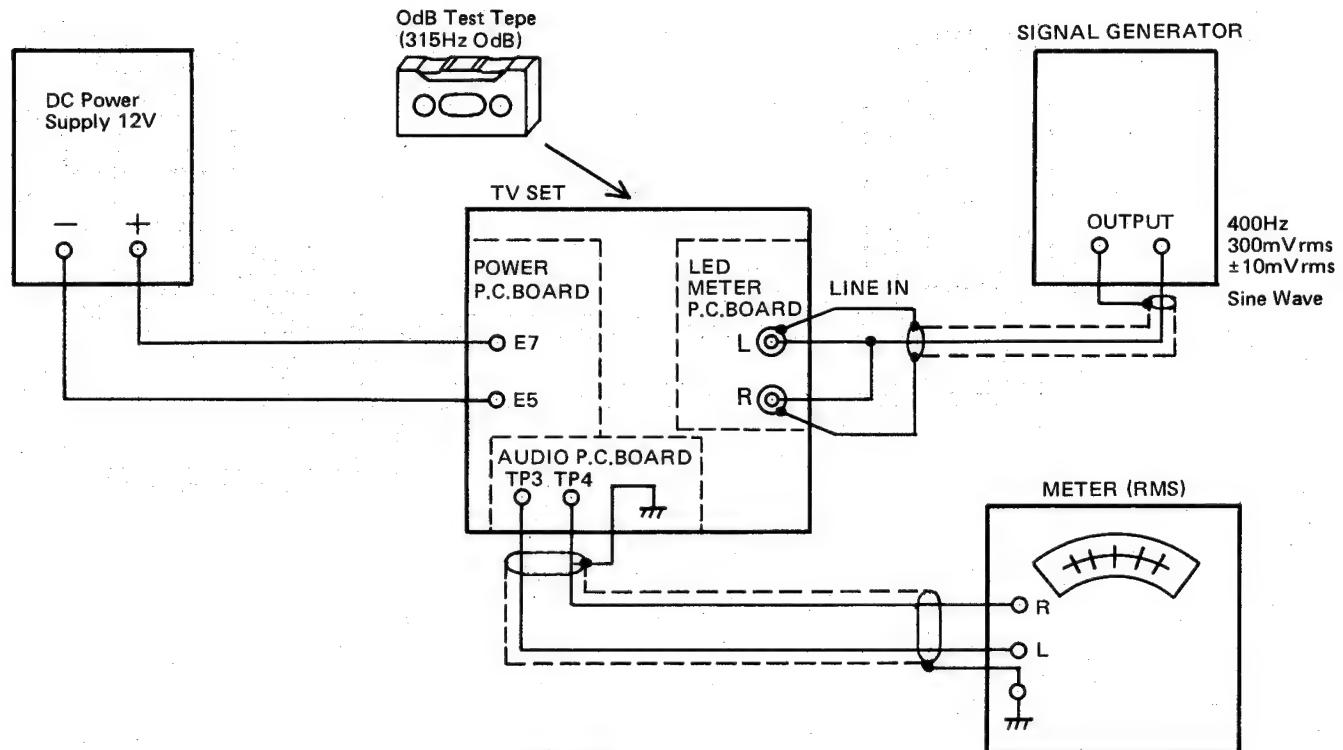

Fig. 36
- Set up Signal Generator and DC power supply as shown in Fig. 36.